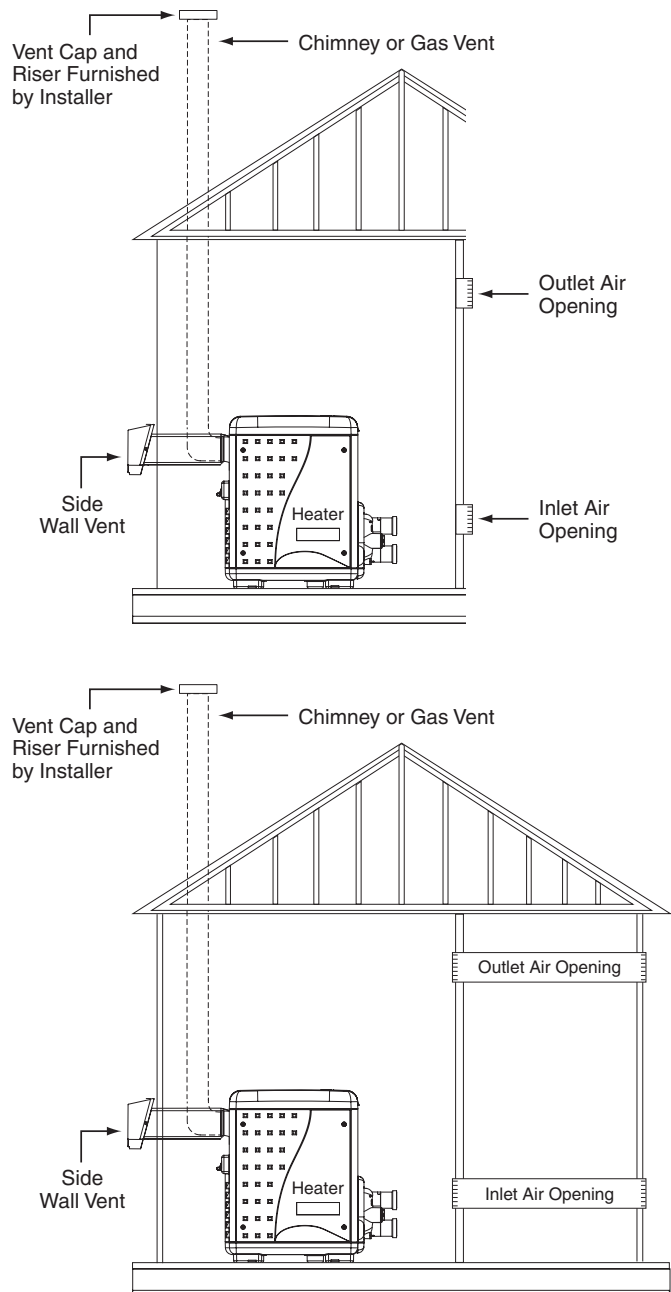

Figure 19/20.
HORIZONTAL OR VERTICAL VENTING - POSITIVE PRESSURE (See Figures 19, 20, & 21)**(Category III)**
6. **Vent Termination – Vertical (See Figures 19 and 20),** for height of vent termination above the roof. Use an "Approved" vent terminal specified by local and national codes and your manufacturer's instructions. A roof termination must be vertical. In Canada, the Vent Cap location shall have a minimum clearance of 4 feet (1.2M) horizontally from electric meters, gas meters, regulators, and relief openings.